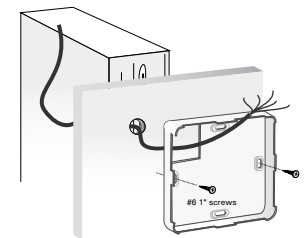

Figure 2:
3. Mount the base directly to the wall using two #6 1-inch screws. (See **Figure 2**.)